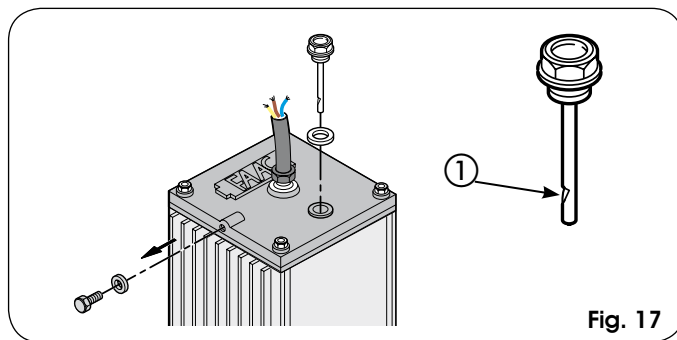

Fig. 17
The level must not drop below the notch of the control stick (Fig. 17 ref ①).
To top-up, unscrew the filling plug (fig.17) and pour in oil up to the correct level.